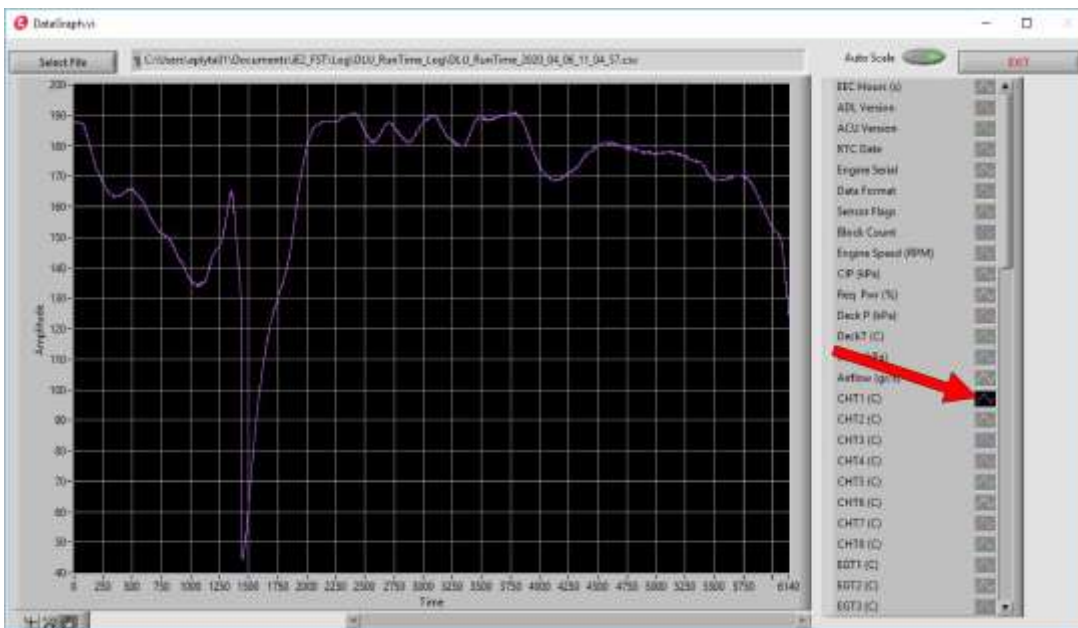

Figure C-37
5. Right or Left click the button for the data you want to plot from the right-hand column (Figure C-37).